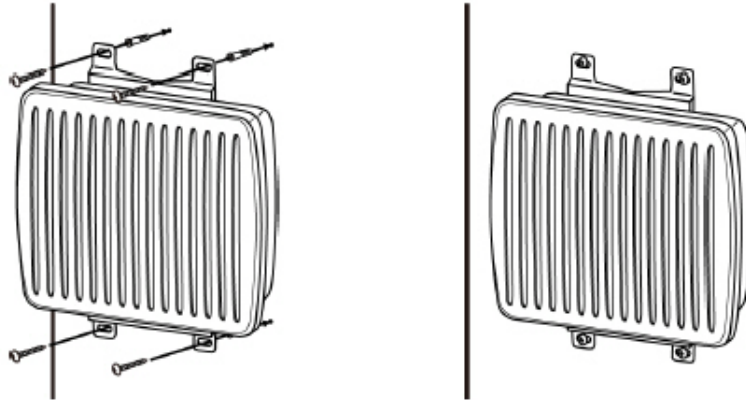

Figure 5-4. X1 Outdoor Router Wall Mount
3. Mount the X1 Outdoor Router to the wall, using the four wood screws and wood/gyprock plugs, as shown in Figure 5-4.